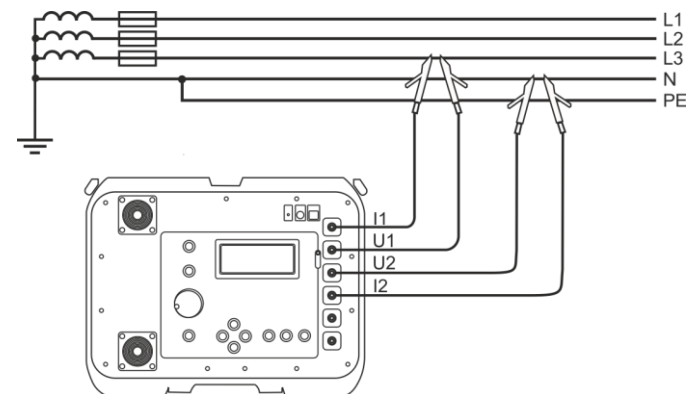

Fig. 21 Measurement of impedance in working circuit (L-N) using four-pole method
- connect the test leads in the following way (Fig. 21-Fig. 24):